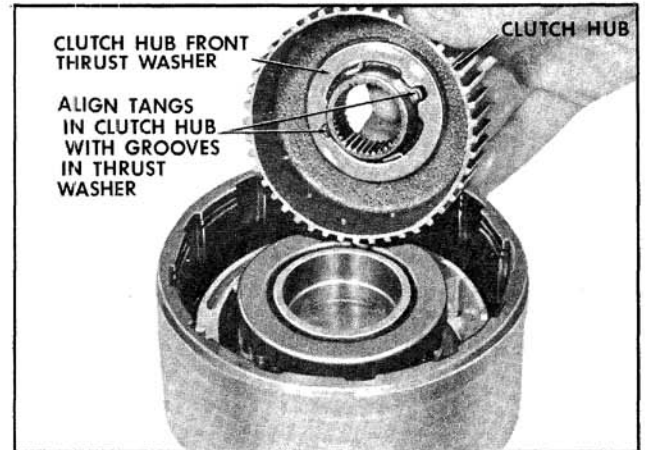

Fig. 6-448 Installing Clutch Hub
8. Install clutch hub front thrust washer to clutch hub (retain with grease) aligning tangs in clutch hub with grooves in thrust washer. Install clutch hub. (Fig. 6-448)